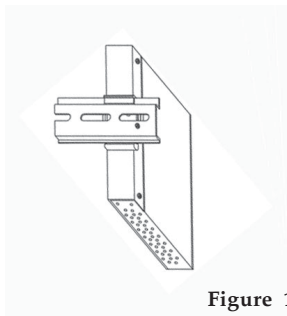

Figure 10
2. Insert the top of the DIN rail clip onto the DIN rail track, then gently push the bottom of the switch to snap the DIN rail track into place, see Figure 10 on the next page.